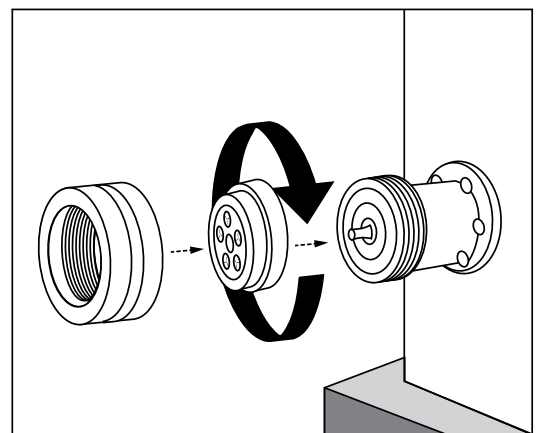

Fig 4
- Place the pasta die on the ring and secure it in the machine. (fig.4)
- Use the special wrench to remove and replace previous pasta die. (fig.4)